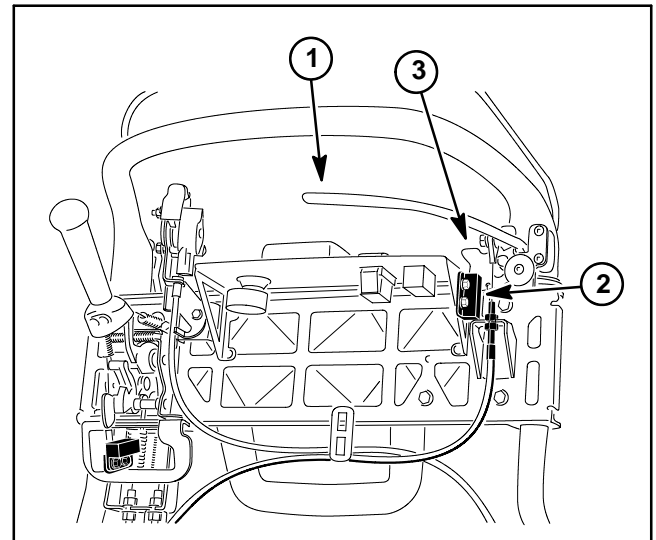

Figure 7
4. With the parking brake latch applied, there should be from 0.030" to 0.090" (0.8 to 2.3 mm) clearance between the parking brake latch and the parking brake latch switch (Fig. 7).